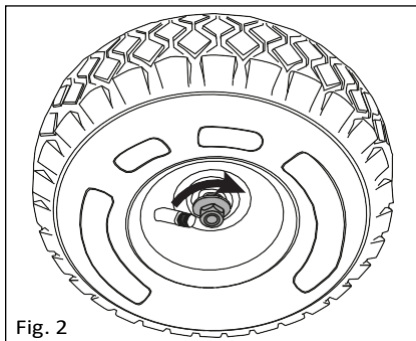

Fig. 2
2. To secure, place the wheel washer and nut onto the axle. Tighten the nut (fig. 2).